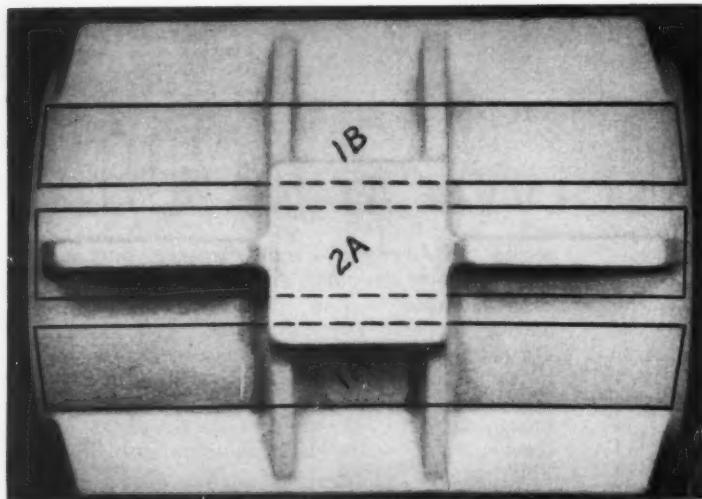

Fig. 2—Locations of test bars taken from test castings
rately cast test bar met the specifications of QQA-601a-3, and radiographs of the casting showed no indication of microporosity or other defects. Test bars were cut from the casting as shown in Fig. 2. Average mechanical properties were 25,200 psi ultimate tensile strength, and 1.5 per cent elongation. Minimum properties were 22,200 psi ultimate, and 1 per cent elongation.
*Location numbers refer to Fig. 2.